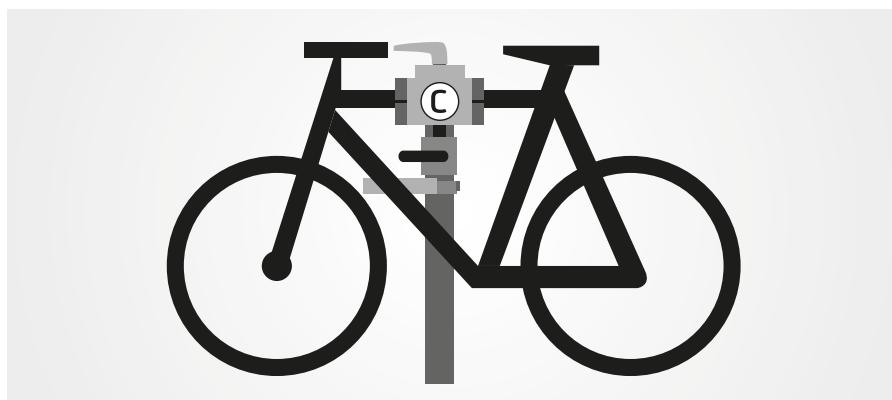
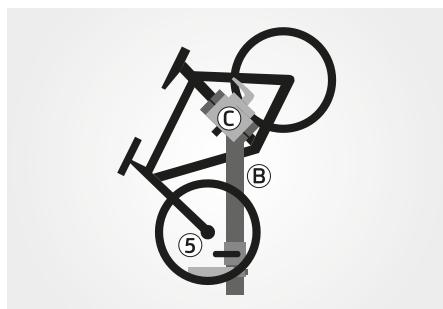

Fig. 1
Fig. 2
- Do not extend the horizontal clamp bar farther than showing in **Fig 1**.
- Choose your clamping position on the bike to get as even a balance as possible to avoid straining the clamp and to avoid tipping. (**See comparison of Fig 1 and Fig 2**).